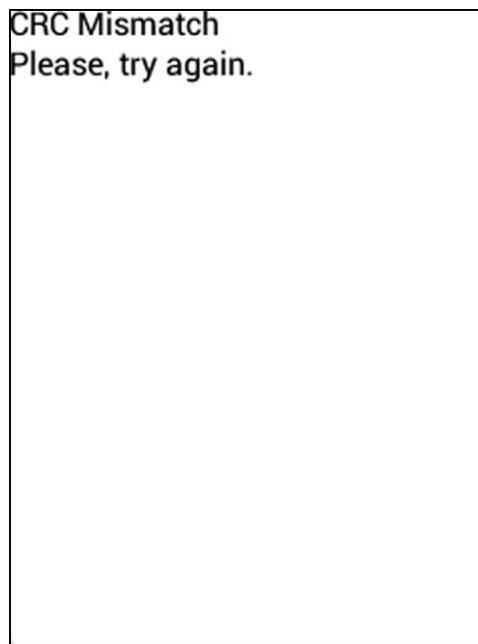

Figure A3.4 - Unsuccessfully installed firmware
3.4. After the upgrade process is completed, the device checks the installed firmware. If the checksums do not match, the message appears on the device screen as in Figure A3.4. After reboot, the device will be in the load error mode, as in par. 3.2 of this Application. Connect the device to your PC and update the device firmware again.